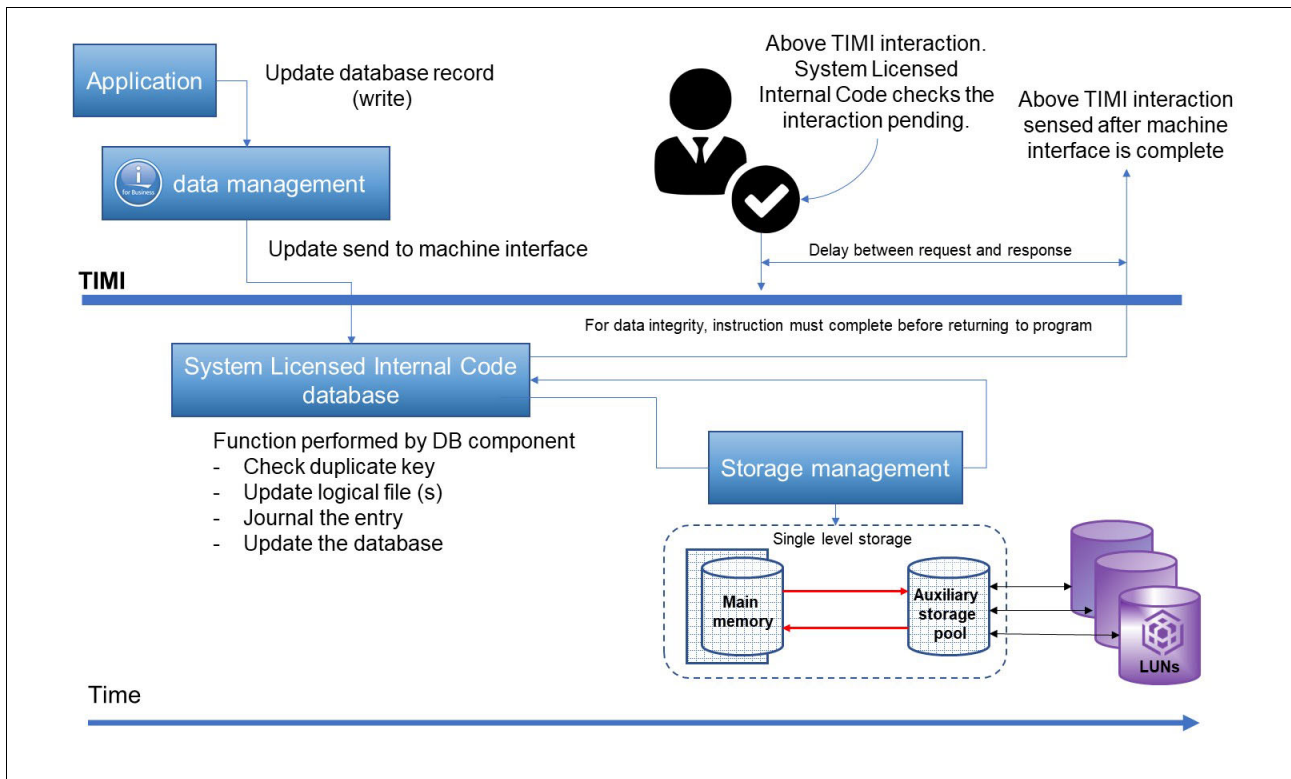

Figure A-4 TIMI atomicity
Other storage-related factors include the IBM i storage pool configuration for the application, how frequently the application closes files, and whether it uses journaling. An example is shown in Figure A-4.
**Note:** In Figure A-4 auxiliary storage pool (ASP) is conformed and assigned LUNs from IBM Spectrum Virtualize to the IBM i. It also shows an application requests and updates a database record. Throughout the time that the TIMI task is in progress, an interaction above TIMI can ensue. The interaction does not carry out upon until TIMI task concludes.